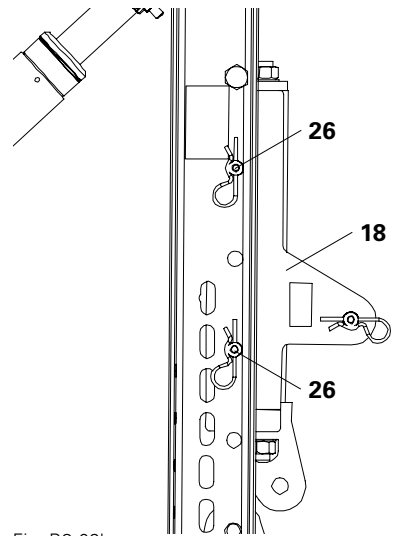

Fig. B3.02b
8. Modify the Spacer in the vertical Steel Walers SRU U120 (1d) so that the Adjusting Unit VARIOKIT (18) can be mounted if these collide. (See Section A6)
9. Mount the Adjusting Unit VARIOKIT (18) on the vertical Steel Waler SRU U120 (1d) using 2x fitting pins \varnothing 21 mm (26). (Fig. B3.02b)